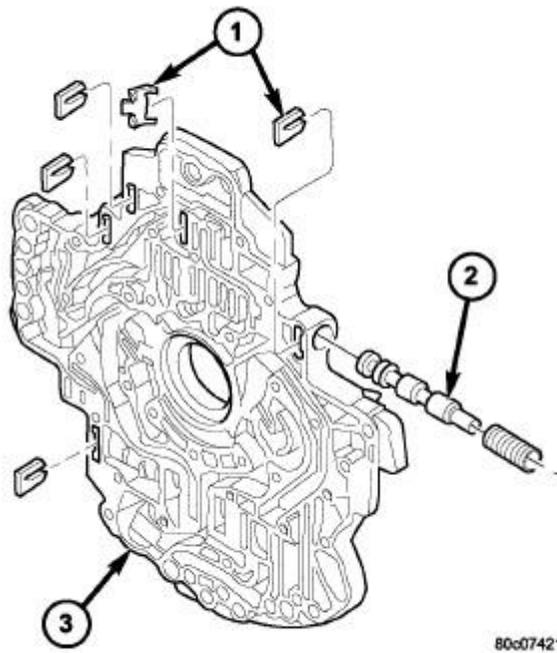

Fig. 173: Oil Pump Valve Retainers & T/C Switch Valve
10. Remove the oil pump valve retainers (1) and associated valve (2) and spring one at a time. Refer to **Fig. 173**. Mark the combination of components as a group and tag them as to the location from which they were removed.